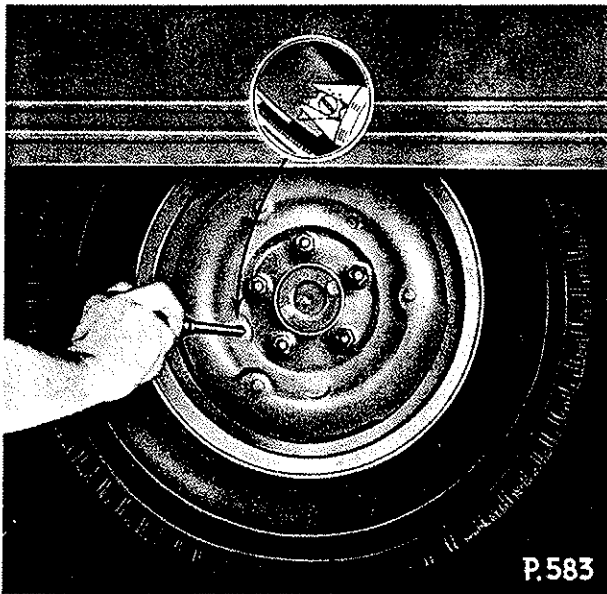

Fig. K.5. Adjusting the rear brake shoes (off-side illustrated)
4. Using a screwdriver turn the adjuster until the brake shoes contact the drum (see Fig. K.5).
6. Repeat operations detailed in paras. (2) to (5) on the opposite rear wheel.